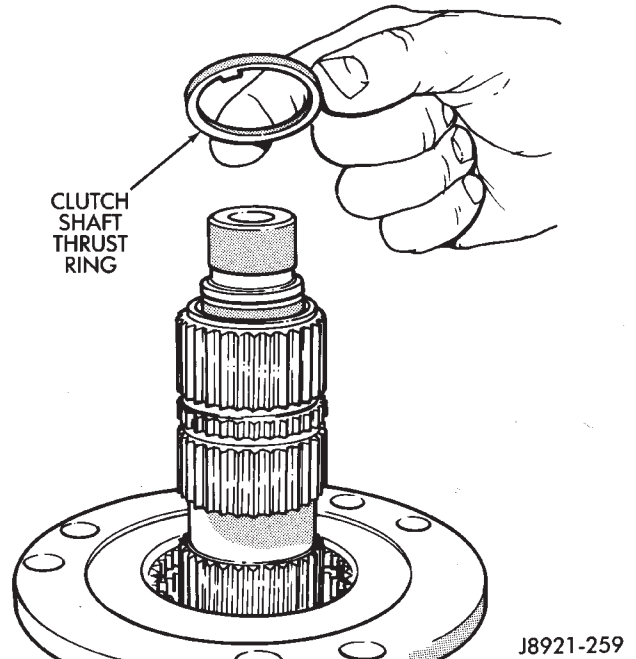

Fig. 25 Removing Clutch Shaft Thrust Ring
(32) Remove clutch shaft thrust ring (Fig. 25).